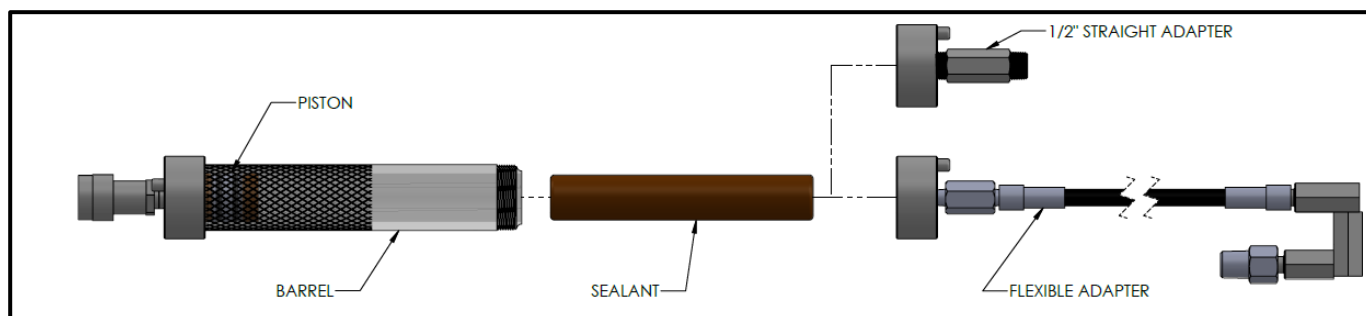

Figure 6
- 3.) Once the piston has been pushed to the bottom of the barrel insert the selected sealant. Screw on the 1/2" straight nipple cap, or the flexible hose cap. Proceed to injecting sealant. When the barrel is empty repeat step 2 and 3 to load more sealant. See Figure 6.